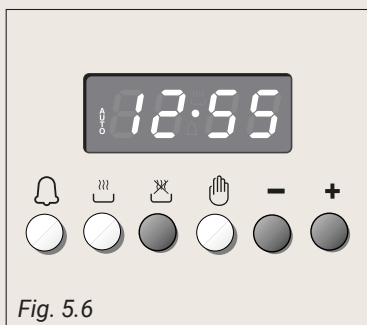

Fig. 5.6
- Set the end of the cooking time by pressing the  button (the cooking time already added to the clock time will appear), and the **+** button (fig. 5.6); if you pass the desired time you may get back by pushing the **-** button. After this setting, the  symbol will disappear. If after this setting, the AUTO flashes on the display